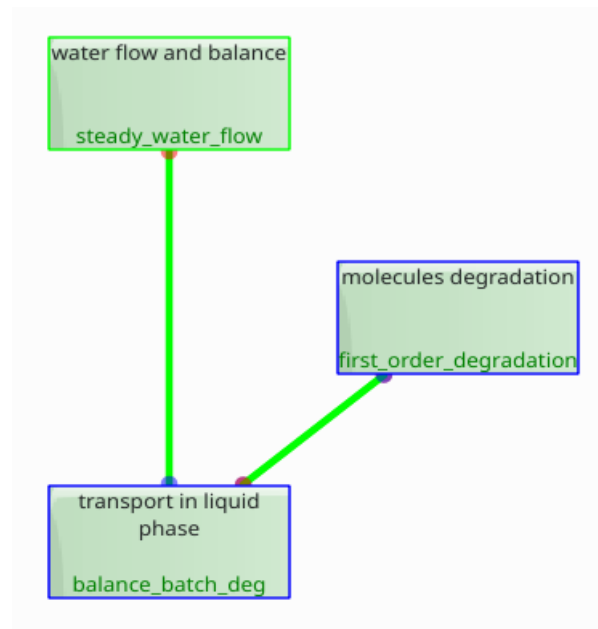
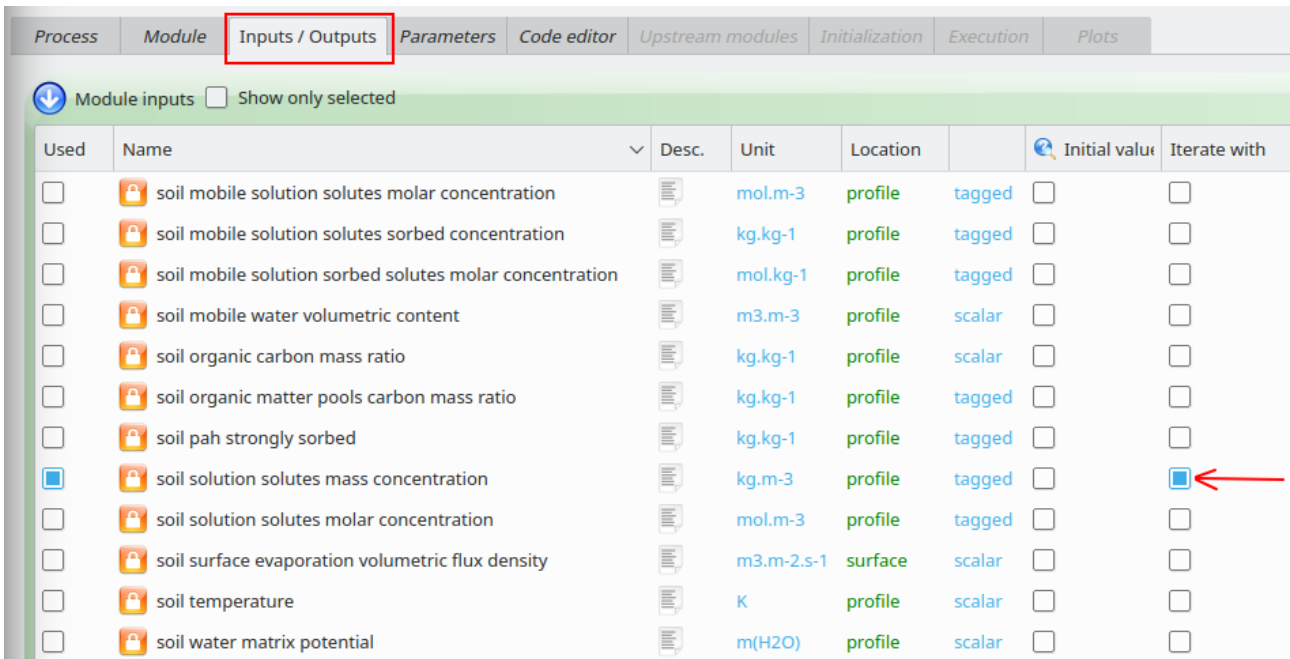
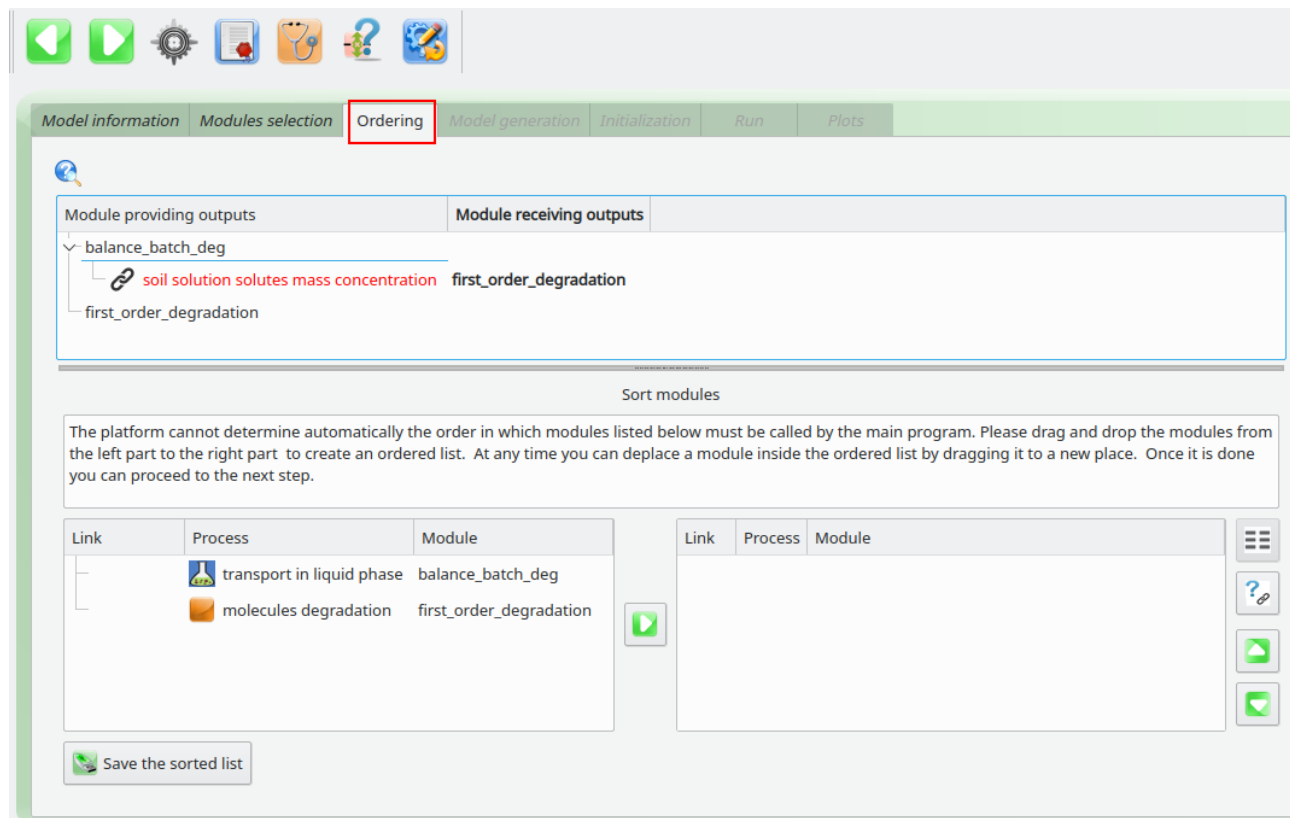
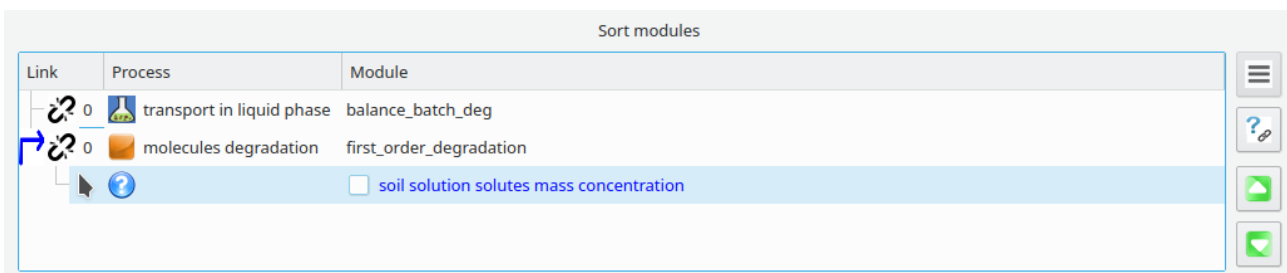

Figure 1: Example of a model containing two coupled modules: *balance_batch_deg* and *first_order_degradation*
Figure 2: Tag a module input as *Iterate with* (*Inputs/Outputs* tab of *vsOil-modules* application)
Figure 6: List of modules to be ordered
Figure 8: Ordered list of modules
A typical situation is presented in the model of figure 1. This model is the official model *example_for_modules_iterations* available in *vsoil-models* application. It is composed of three modules:
Edit your module in *vsoil-modules* application. In *Inputs/Outputs* tab, some check boxes are displayed in the *Iterate with* column of the *Module inputs* part of the window (see figure 2). The developer of the module can use these check boxes to indicate that the module can be involved in an iterative loop using the checked input variables. In this figure, the input variable *soil solution solutes mass concentration* of module *first_order_degradation* is tagged as *Iterate with*, so that module *first_order_degradation* will have the ability to handle a process of iterations with the module that produces this variable, that is module *balance_batch_deg* (see figure 1 and the list of inputs/outputs of modules *first_order_degradation* and *balance_batch_deg* presented above).
Remark: instead of tagging *soil solution solutes mass concentration* as *Iterate with*, we could have tagged variable *soil solution solutes degradation rate* that is an input of module *balance_batch_deg*. In this case, module *balance_batch_deg* would have been able to handle the process of iterations with module *first_order_degradation* that produces this variable (see figure 1 and the list of inputs/outputs of modules *first_order_degradation* and *balance_batch_deg* presented above).
When at least one input variable is tagged as *Iterate with* (see figure 2), the two following boolean variables are made available in the *Compute* section of the *Code editor* tab of the concerned module: *iteration_enabled* and *iteration_succeeded* (see the red frames in figure 5). The first (*iteration_enabled*) informs the *Compute* section that the iterations are possible. Note that **iterations are a possibility and not an obligation** for the developer of the module. The second variable (*iteration_succeeded*) must be used by the developer to inform the coupler of the progress of the iterations. By default, *iteration_succeeded* is set to **true**. This means that the coupler will consider that the iterations are successful. In this case the coupler does not call again the module providing the coupling variable (here module *balance_batch_deg* that provides variable *soil solution solutes mass concentration*) and continues the execution of the model for the current time increment. So if the developer wants to iterate, he must initially
1. Open/create a model containing a module handling iterations. In our example, we open the model *example_for_modules_iterations* presented in figure 1.
2. In *Ordering* tab, the list of modules to be manually ordered is displayed (see figure 6). In upper part of this tab, the  icon appears in front of variable *soil solution solutes mass concentration* because this variable, which is produced by module *balance_batch_deg* and is an input of module *first_order_degradation*, has been previously tagged as *Iterate with* in *vsoil-models* application (see figure 2).
- Once the modules have been ordered (see figure 8), a check box then appears in front of variable *soil solution solutes mass concentration* because this variable is tagged as *Iterate with* (it is marked with the  icon in upper part of *Ordering* tab, see figure 6). The  icon specifies which module receives the variable tagged as *Iterate with*: here it is module *first_order_degradation*. The  icon (open loop) indicates that iterations between two modules are available but not active; the number associated to this icon (0 here, ) identifies the couple of modules that can iterate (case of several couples of modules that can iterate in a model).
- The number placed after  and  icons is a link identifier between modules (0 in figure 8). Indeed, different iterations between different modules can be activated. Thus, this identifier allows to know which modules are involved in a given process of iterations between modules. The only limitation is that processes of iterations between modules cannot overlap. It means, if we consider iterations between modules MA and MB on the one hand, and modules MC and MD on the other hand, that the two following execution flows are allowed: